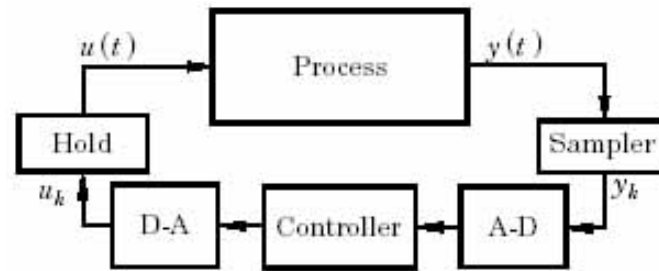

Figure 3: Model of digital control system.
The controller you just designed will be implemented digitally. This system can be described as in the Figure 3. In this part of the homework, the A/D and D/A converters can be neglected, and will be covered in the last part
21. Open the Simulink model with the discrete designed controller. Add your own quantization block (with the same quantization level) according to Figure 3 and ensure that you quantize  $y(t)$  and  $u(t)$  and not  $\Delta y$  and  $\Delta u$ . This corresponds to an A/D and a D/A converter. Set the saturation for both blocks to 0 for the lower and 100 for the upper limit. Simulate the system for different values of the quantization level. For which quantization level will the control performance start to degrade? How many bits does this correspond to? [5p]